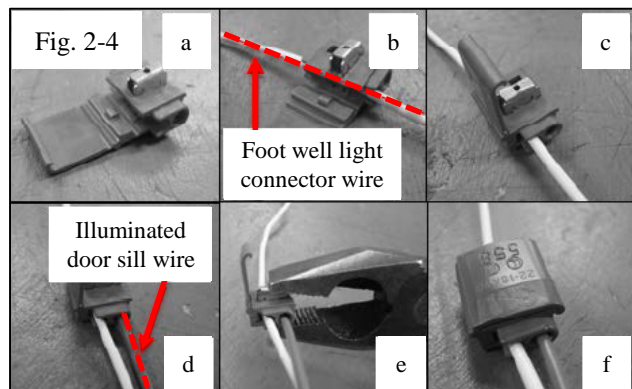

Fig. 2-4 Proper application of Scotchlok
**NOTE:** Refer to Fig. 2-4 for instructions on proper Scotchlok installation.